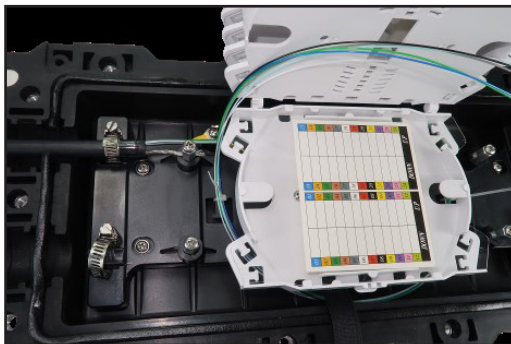

Figure 1-11: Manage cable
- 10 Manage cable with the magic band tie (Figure 1-11).